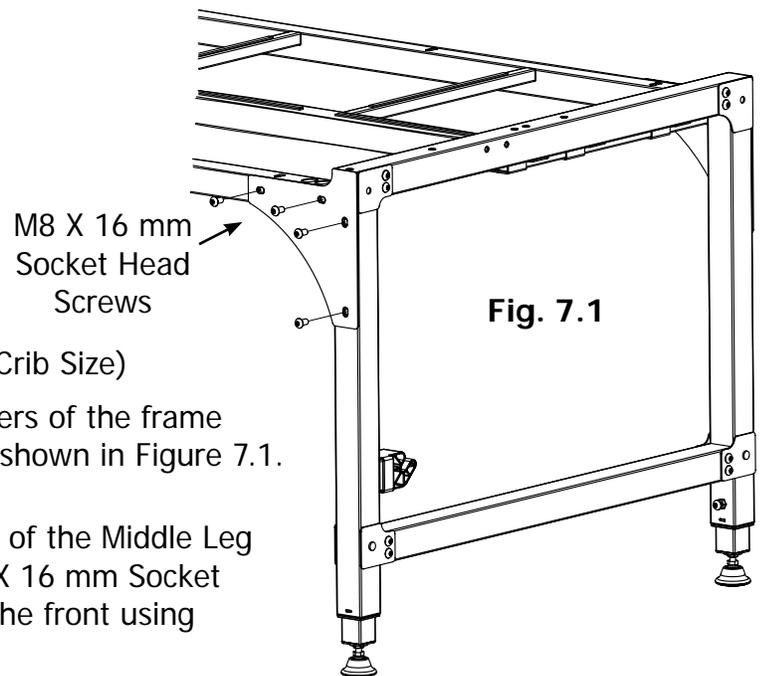

Fig. 7.1
7-1: Attach (4) Side Support Plates to the corners of the frame using (16) M8 X 16 mm Socket Head Screws, as shown in Figure 7.1.